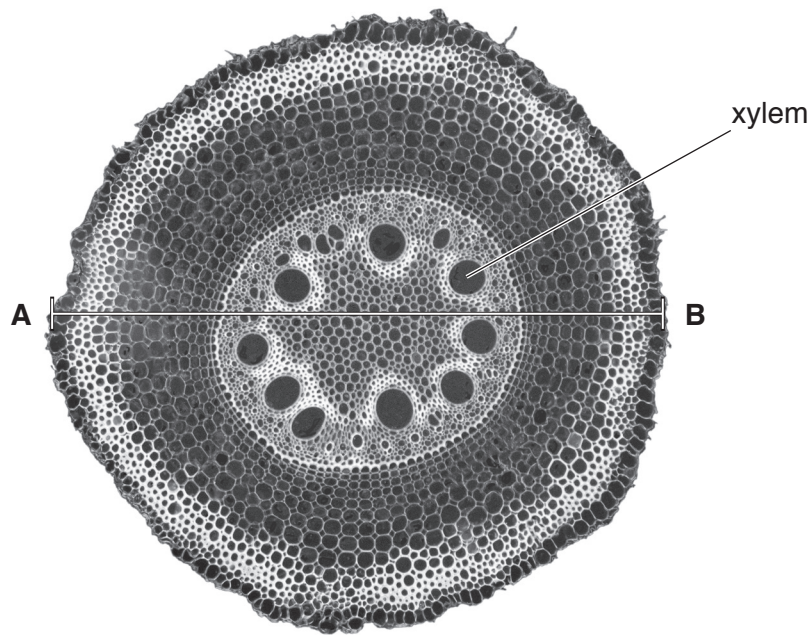
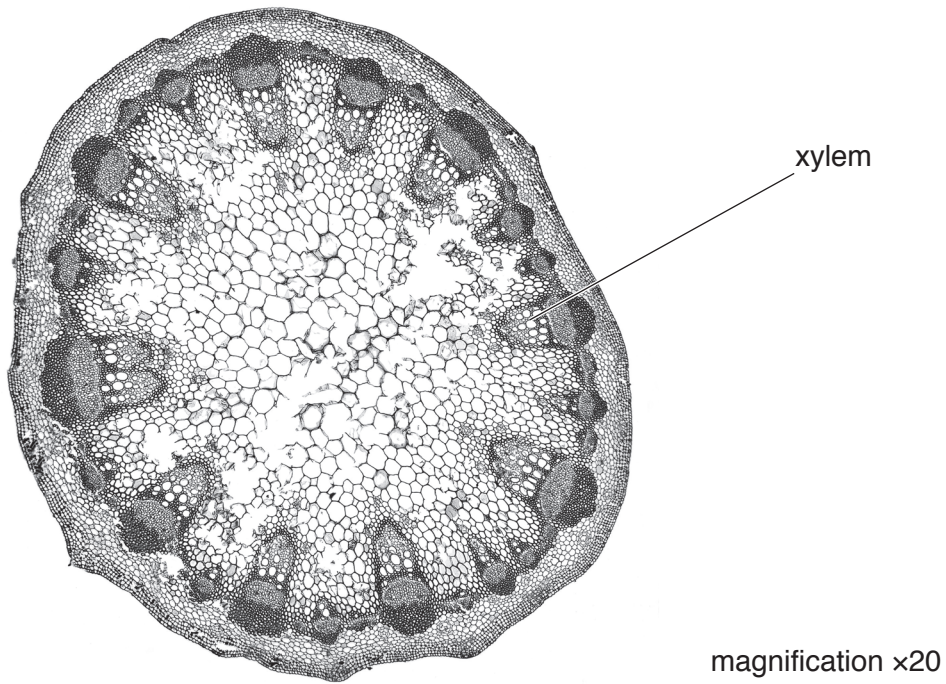

Fig. 2.2
Fig. 2.3
(c) Fig. 2.2 is a photomicrograph of a cross-section of a root.
- (i) Make a large drawing of the cross-section of the root in Fig. 2.2 to show the different areas of the root.
(ii) Measure line **AB** on Fig. 2.2 in millimetres.
The actual diameter of the root shown in Fig. 2.2 is 2mm.
Calculate the magnification of Fig. 2.2 using the equation.
magnification = $\frac{\text{length of line AB on Fig. 2.2}}{\text{actual diameter of the root}}$
(iii) Fig. 2.3 is a photomicrograph of a cross-section of a stem.
State **two** differences between the root in Fig. 2.2 and the stem in Fig. 2.3.